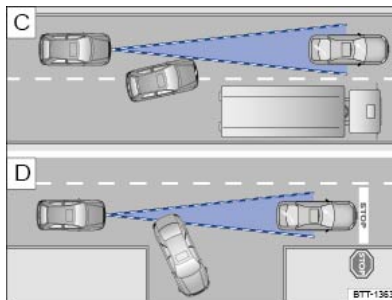

Fig. 144 Vehicle changes lane. Turning vehicle and stationary vehicle.
If a stationary vehicle is hidden behind a vehicle that has been detected by the adaptive cruise control and this vehicle turns off the road or changes lane, the ACC will not react to the stationary vehicle ⇒ Fig. 144 [D].
- Vehicles that change into your lane directly in front of your vehicle ⇒ Fig. 144 [C].